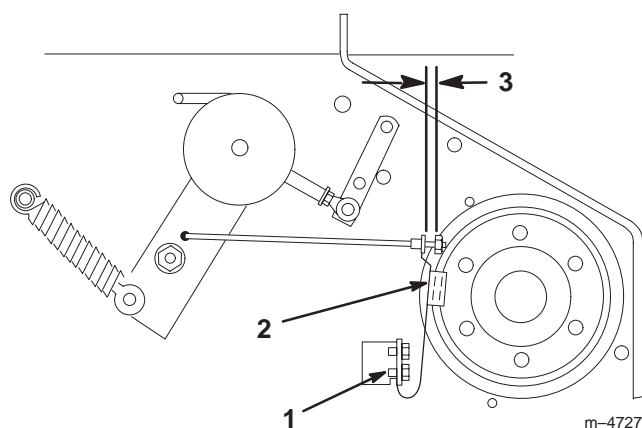

Figure 44
3. If necessary, adjust the spring mounting bolts so that the blade brake pad rubs against the pulley edges (Fig. 44).
4. Adjust the nut at the end of the blade brake rod until there is 1/8–3/16 inch (3–5 mm) between the nut and the spacer (Fig. 44).